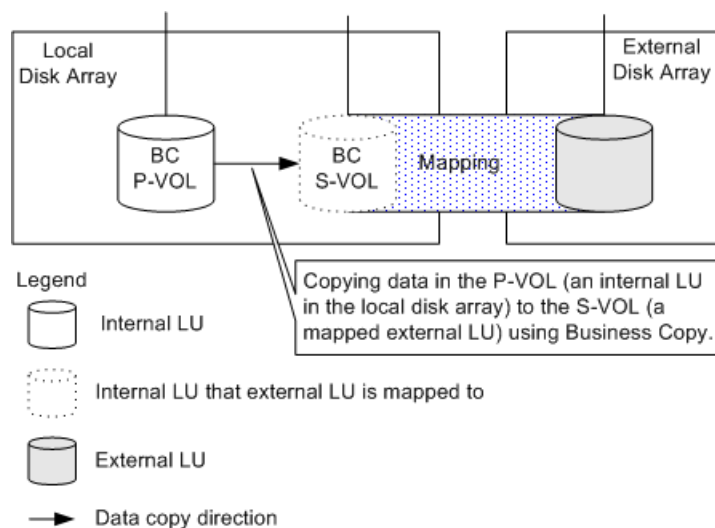

Figure 358: Business Copy operations using an external LU
Figure 358 shows an example using the external LU for Business Copy (BC) operations. The mapped external LU is set as the S-VOL of the BC pair, and the local disk array internal LU is set as the P-VOL of the Business Copy pair. For detailed information on Business Copy operations, see page 581.